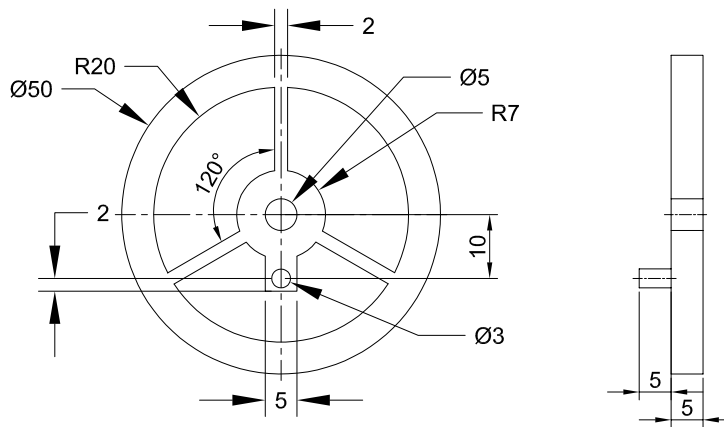

Figure 2-40 The front view of the Wheel
- Similarly, create the sketches of the Wheel, Connecting rod, and Slider in a separate sketching environment. For dimensions of the sketches, refer to Figures 2-40 through 2-42. Save all the sketches as separate block files in the *c02* folder.